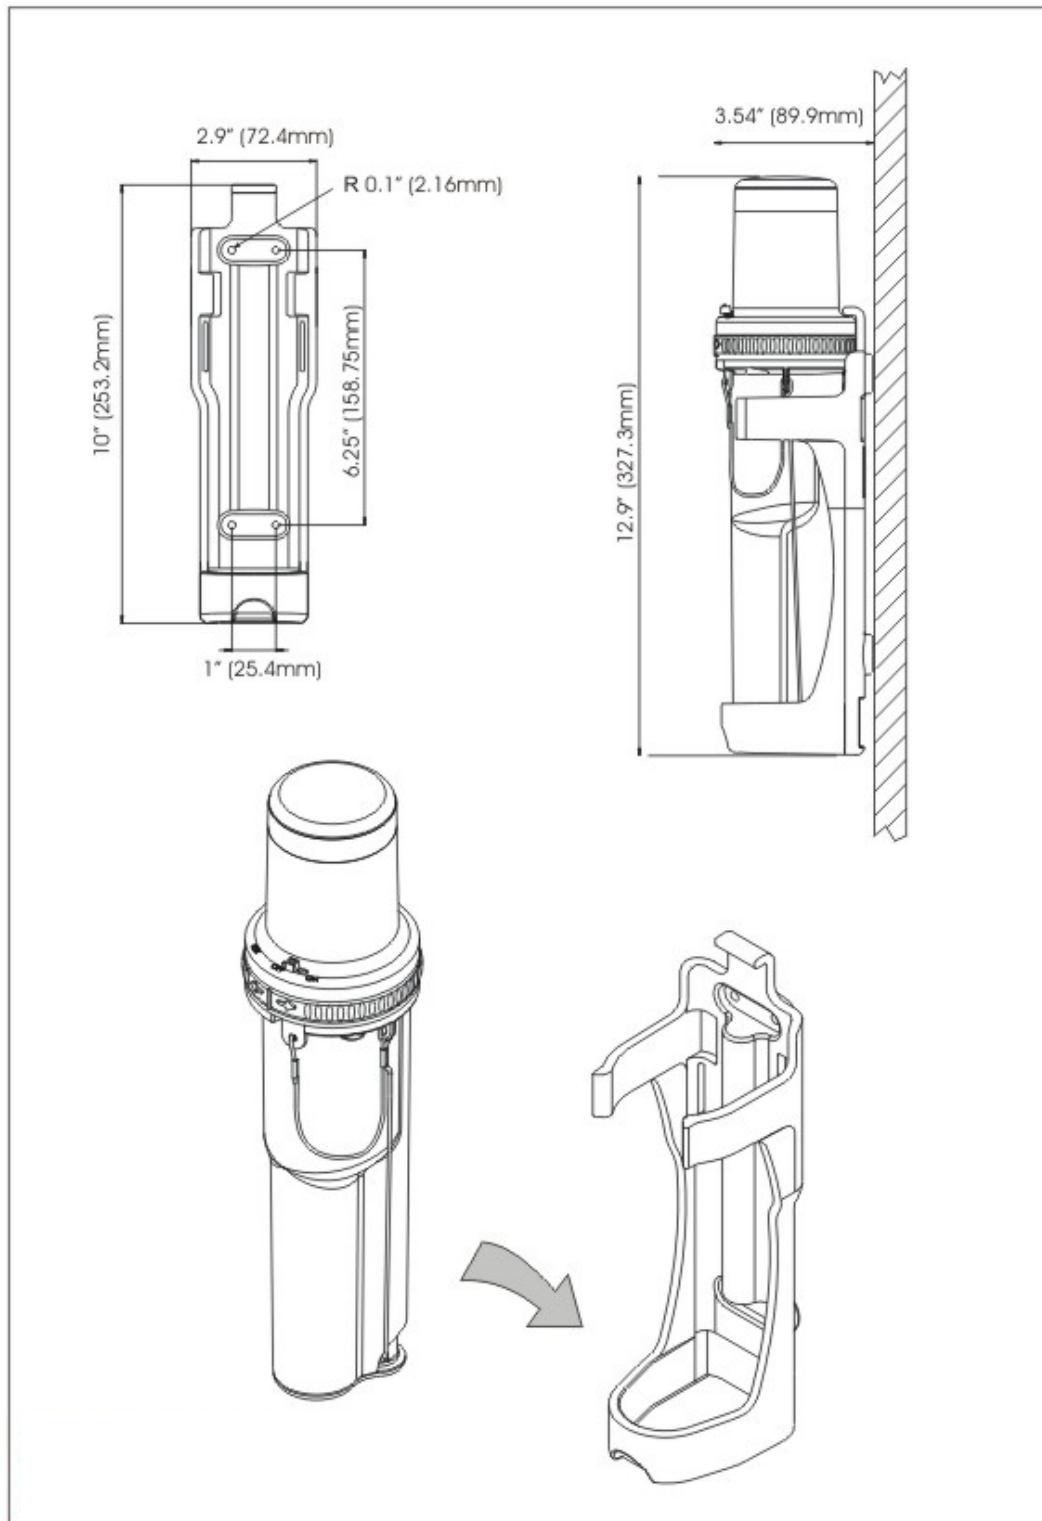

Figure 7: Installing the SART
The SART mounting bracket should be bolted to a bulkhead using four (4) suitable M6 (1/4") bolts. The equipment does not include mounting hardware for the bracket, as it will depend on the bulkhead material and its thickness. Bracket mounting holes and SART mounting details are shown in figure 7.
Drill holes to dimensions shown on figure 7.
- Mount SART on the bracket (see figure 7).